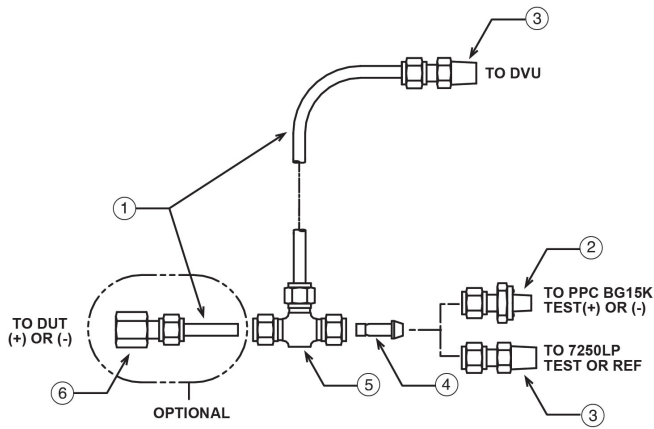

Figure 1: Interconnections Kit
3. Install a ¼ in. tube tee (5) onto each of the union/adaptor assemblies that were just installed in the pressure controller ports in steps 1 and 2. Orient the tee with consideration for the connection to the DVU (Figure 1 shows the DVU stacked on top of the pressure controller).
4. Install the ¼ in. tube x ¼ in NPT M (3) adaptors into the two ports of the DVU using Teflon tape as a sealer.
6. The Device Under Test (DUT) should be connected to the previously unused ¼ in. tube tee connection. For a DUT with ¼ in. NPT male connections, cut a small length of PFA tubing to use as a union between the ¼ in. tube tee (5) and the ¼ in. tube x ¼ in. NPT F adaptor (6).